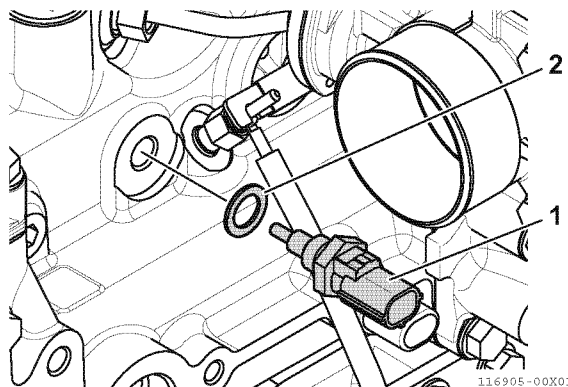

Fig.40-21
- 1 - Install the coolant temperature sensor (1, Fig.40-21) and new copper gasket (2, Fig.40-21).